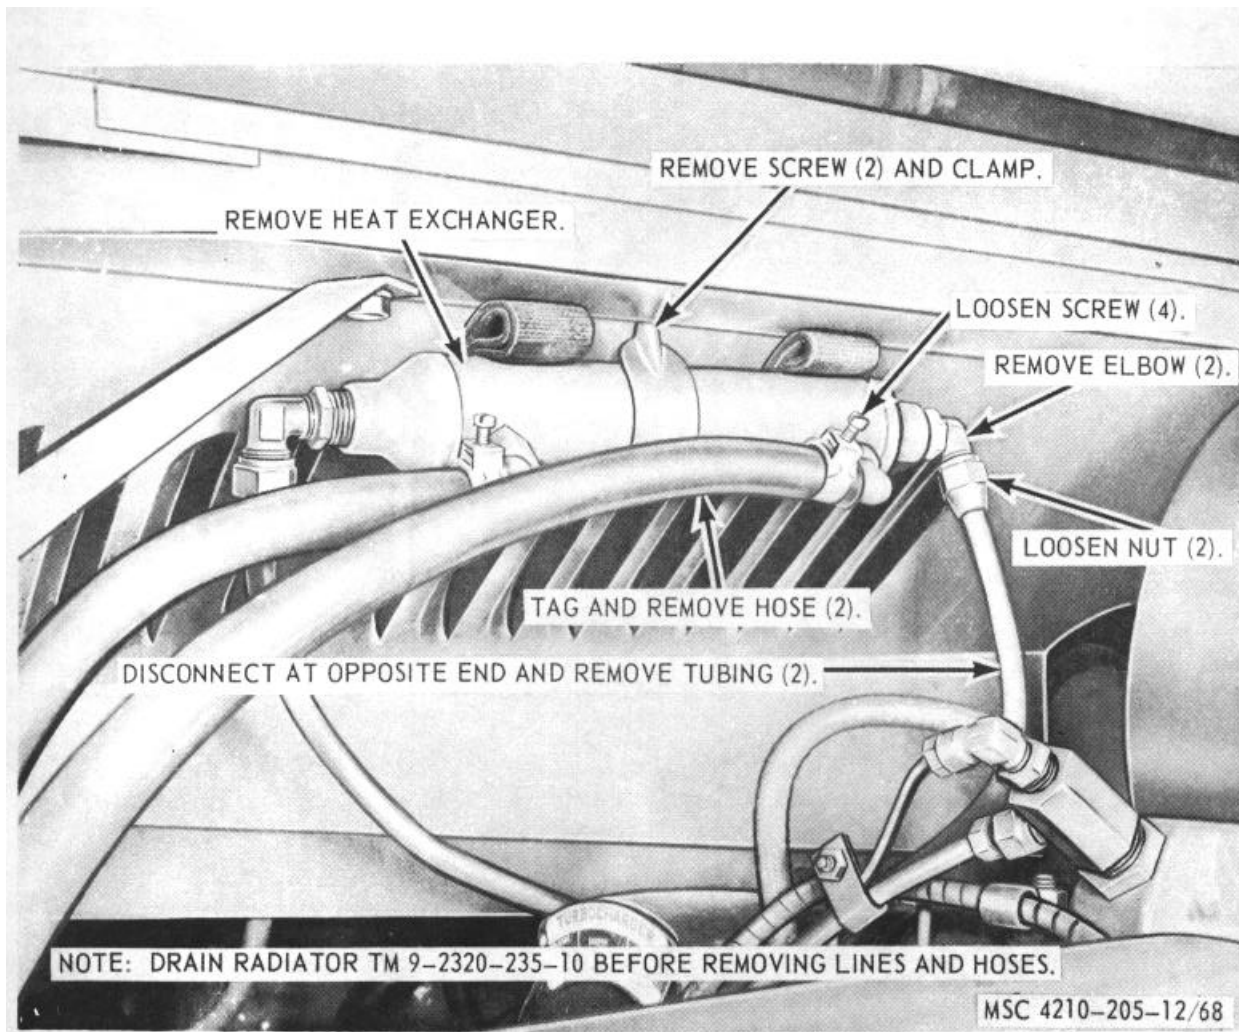

Figure 68. Heat exchanger and tubing, removal and installation.
a. Removal. Refer to figure 68, and remove the cooler manifold and tubing from the engine compartment.
(1) Clean all parts with a clean cloth dampened in an approved cleaning solvent, and dry thoroughly.
(2) Inspect all parts for damaged or defective condition.
(3) Replace or repair damaged or defective parts as necessary.
c. Installation. Refer to figure 68, and install the heat exchanger and tubing on the engine compartment.